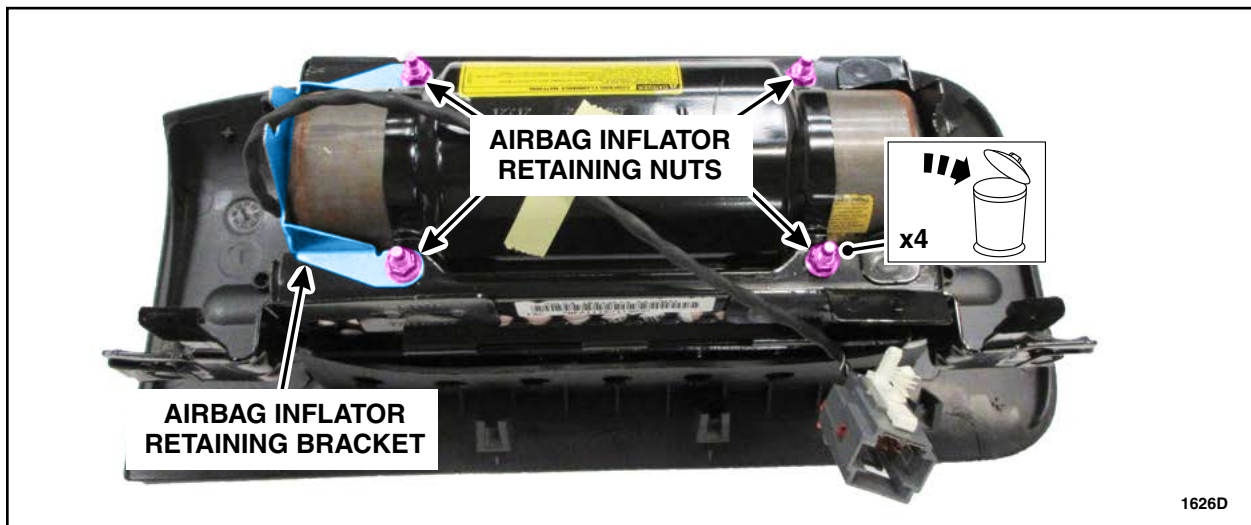

FIGURE 5
5. Remove and discard the four passenger airbag inflator retaining bracket nuts and the retaining bracket. See Figure 5.